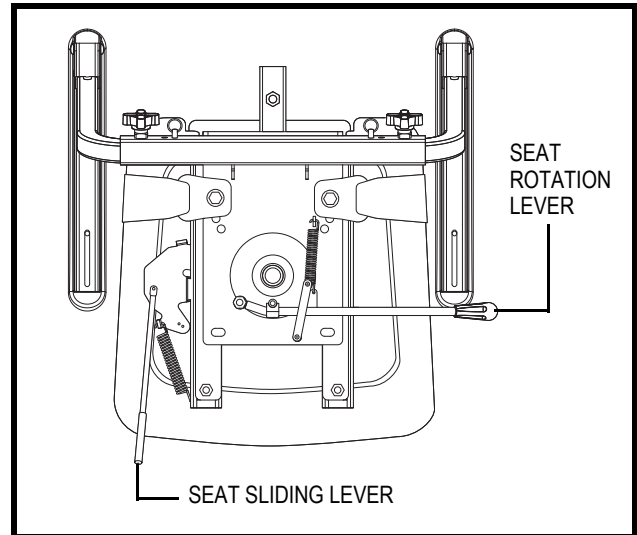

Figure 18. Seat Position Adjustments
1. Push forward on the seat rotation lever to disengage the seat. **See figure 18.**
1. Move the seat sliding lever located at the lower left side of the seat outward. **See figure 18.**